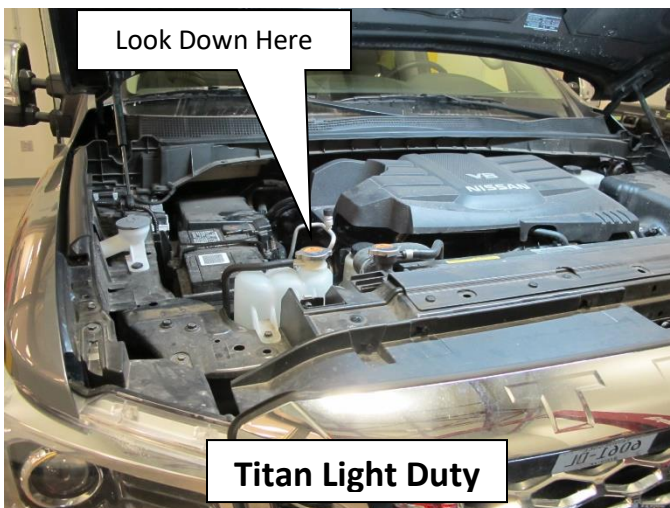

Figure 3
3. Look down in the area shown below (Figures 3 and 4). The generator harness is located between the yellow engine oil dipstick and the power steering pump.